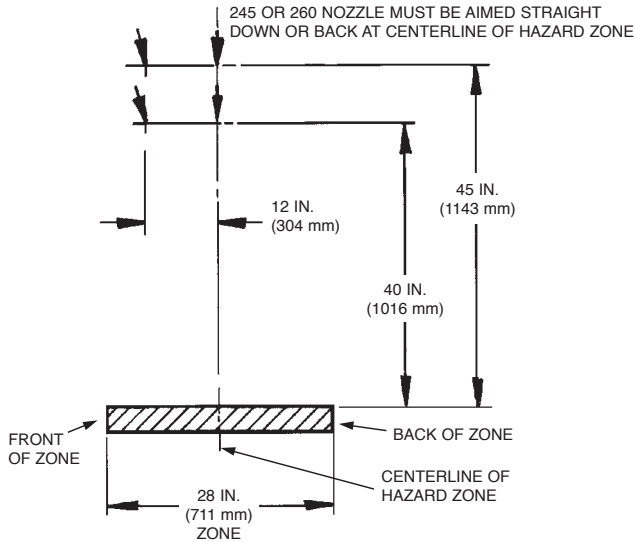

FIGURE 4-115
3. The overlapping appliance nozzles must be located 40 in. to 45 in. (1016 mm to 1143 mm) above the top surface of the protected appliances. See Figure 4-115.
- The overlapping appliance nozzles must be located 0 in. to 12 in. (0 mm to 304 mm) forward of the centerline or aimline of the selected hazard zone. See Figure 4-115.